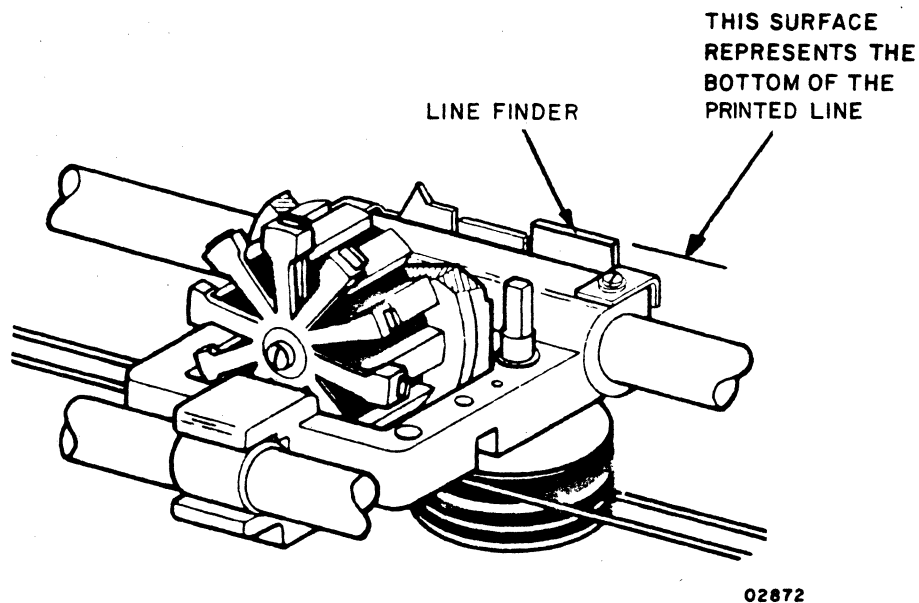

Figure 70-3. Printhead Line Finder
- 12) Manually align the first print line position of a following form with printhead line finder (figure 70-3), so that printing will occur at the top of that form. This is done by pressing the clutch retractor lever and turning vertical forms positioning knob.